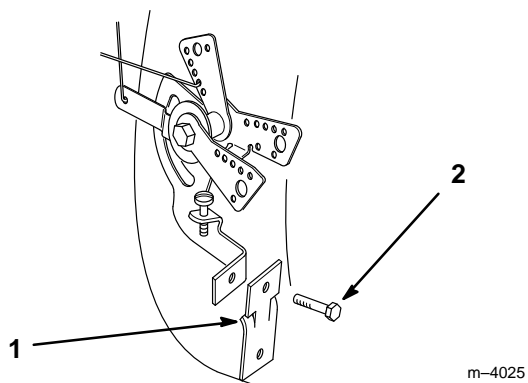

Figure 2
6. Align adapter so tabs are below engine cable bracket (Fig. 2).
7. Secure adapter to engine cable bracket with new #10-32 x 1/2" (13 mm) screw (Fig. 2).